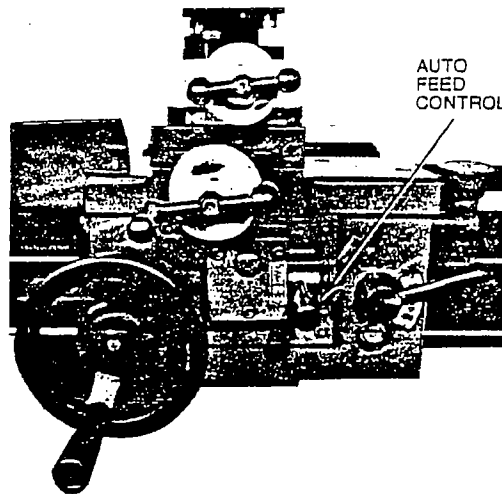

FIGURE 22
- b. Push down on auto feed control lever (Figure 22).
- b. Select feed rate and engage longitudinal feed by pulling up on longitudinal auto feed control lever (Figure 22).